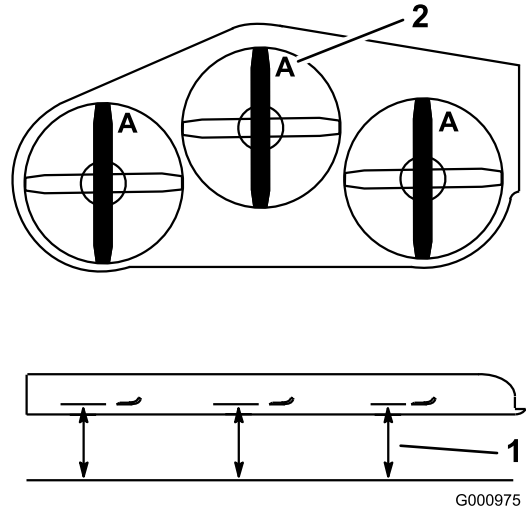

**Figure 92**
1. Inspect the cutting edges (Figure 92). If the edges are not sharp or have nicks, remove and sharpen the blades. Refer to Sharpening the Blades \(page 66\).
2. Inspect the blades, especially the curved area (Figure 92). If you notice any damage, wear, or a slot forming in this area (Figure 92), immediately install a new blade.